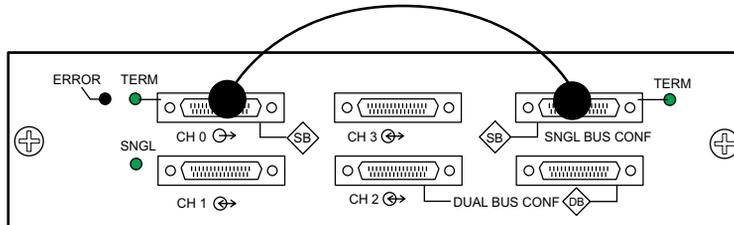

FIGURE 5-10 Single Bus Connection: All Drives are Assigned to a Single Channel (CH 0)
1. To configure a RAID array as a single bus configuration, connect the SCSI jumper cable between the SCSI ports labeled “CH 0” and “SNGL BUS CONF” as shown in FIGURE 5-10.